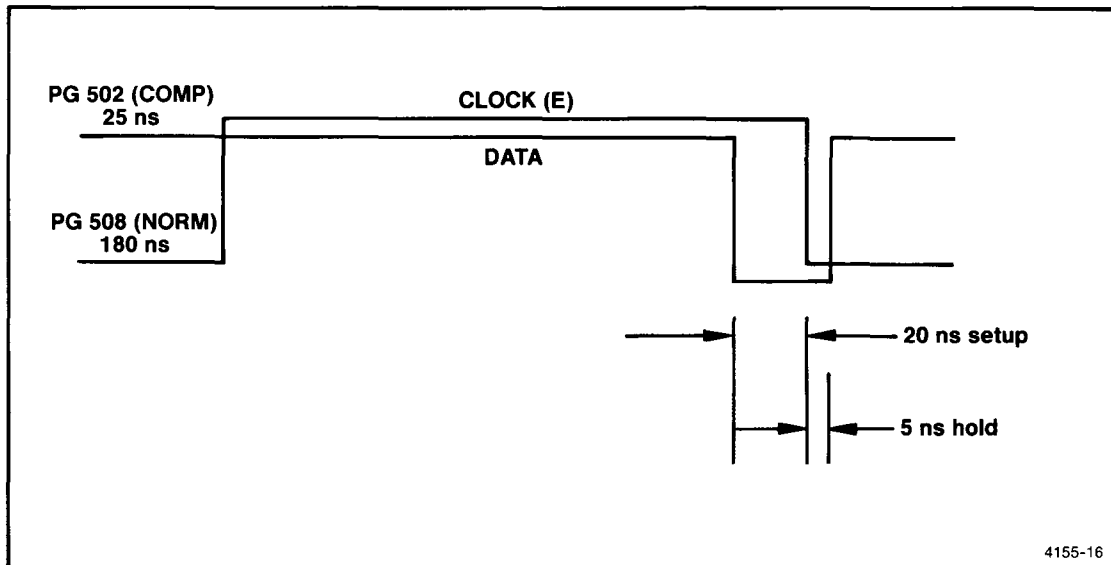

Figure 5-5B. Timing option data setup and hold (complemented).
24. Place the PG 502 COMPLEMENT button in the complement position. Adjust the oscilloscope so the pulses are on the screen. Verify the pulse out of the PG 502 is 20 ns before and 5 ns after the clock pulse (PG 508). Refer to Figure 5-5B.